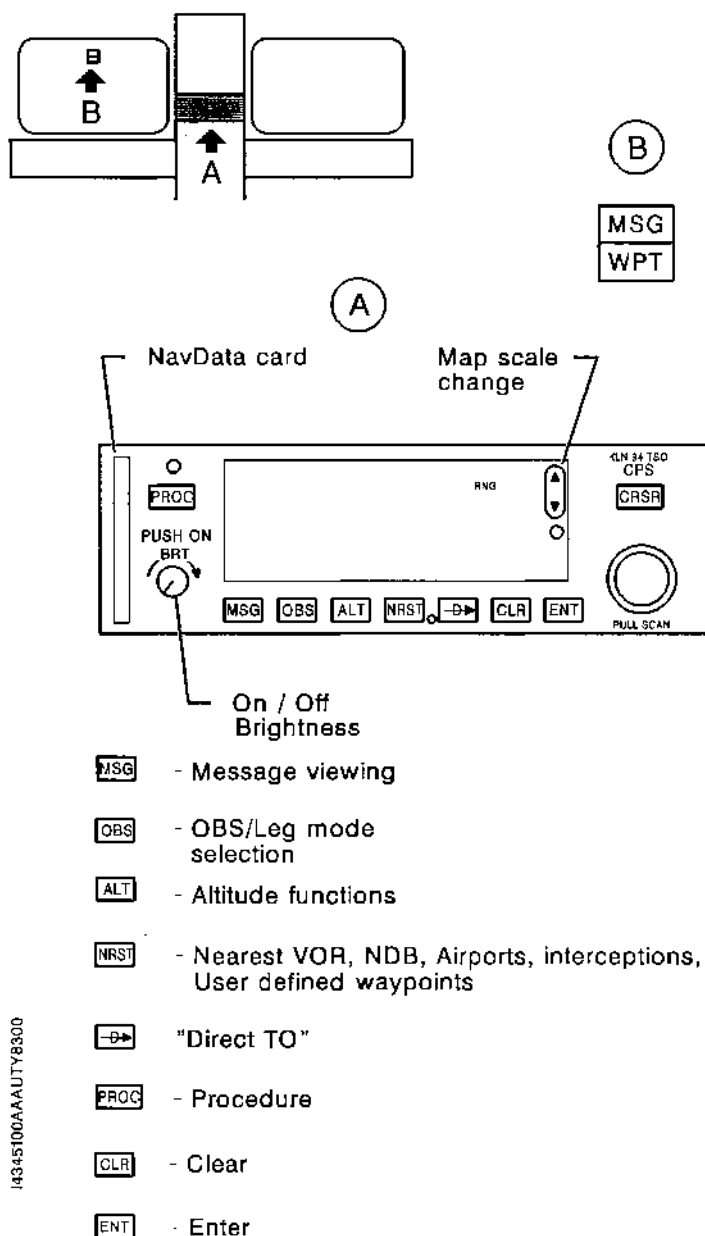

Figure 9.52.2 - "HONEYWELL" KLN 94 GPS SYSTEM
- one KLN 94 GPS installed in radio rack - see Figure 9.52.2,